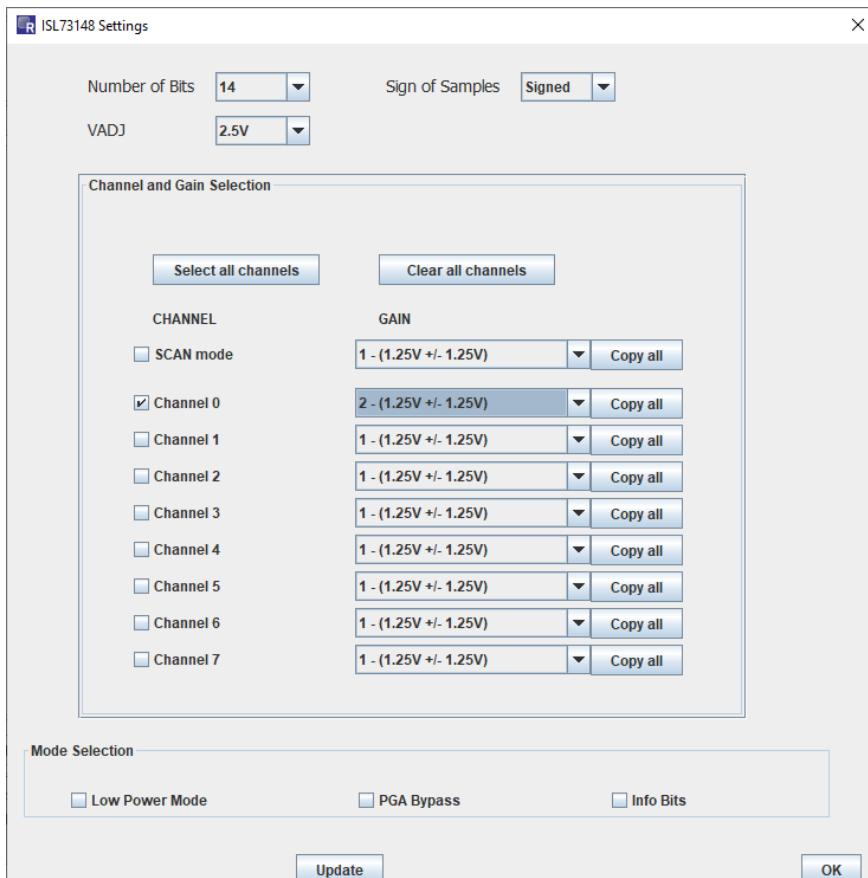

Figure 7. iRADAnalyzer Device Settings (Normal Mode, PGA Gain = 2, Signed/Bipolar)
**Table 1** provides the information on the information bits, sample period, and sample rate for all the various modes of the ISL73148SEH. The first three columns correspond to the three check boxes under **Mode Selection** in the **Device Settings** menu shown in Figure 7. The sample period and sample rate shown are based on an input clock frequency of 100MHz. If another input clock frequency is used, the sample period and sample rate change accordingly. To calculate the sample rate with a different input clock frequency, multiple the number in the sample period column by 100 and divide the input clock frequency by that result. For example, when operating in normal mode with PGA bypassed and no info bits if an input clock frequency of 90MHz is used, the resulting sample rate is  $90\text{MHz}/111 = 818.818\text{kspS}$ . While the ISL73148SEH has no lower limit on the sample frequency, care should be taken to consider the sample collection time when using low sample rates because the minimum capture size is 32k samples.